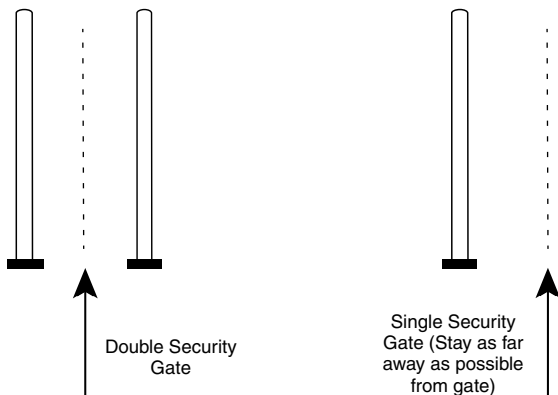

Figure 23. Approaching security gates
2. If patients must pass through the security device, they should approach the center of the device and walk normally (Figure 23).